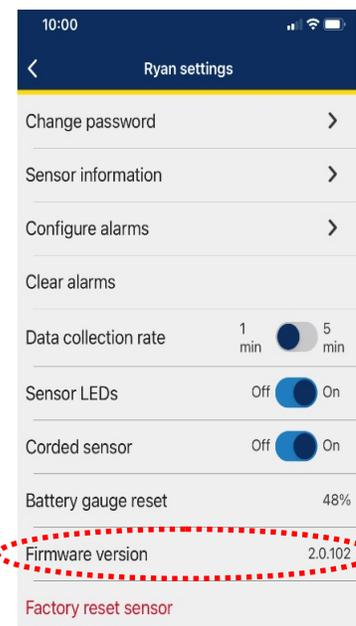

Figure 47
4. New sensor **firmware version** will be displayed in the settings page (see figure 47).